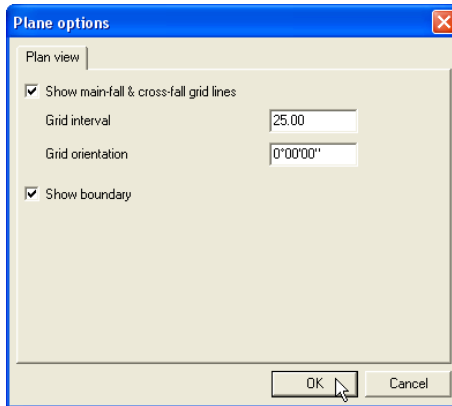

Figure 7-17. Set Plane Surface File Options
2. Select and enter the following information, then click **OK** (Figure 7-17):